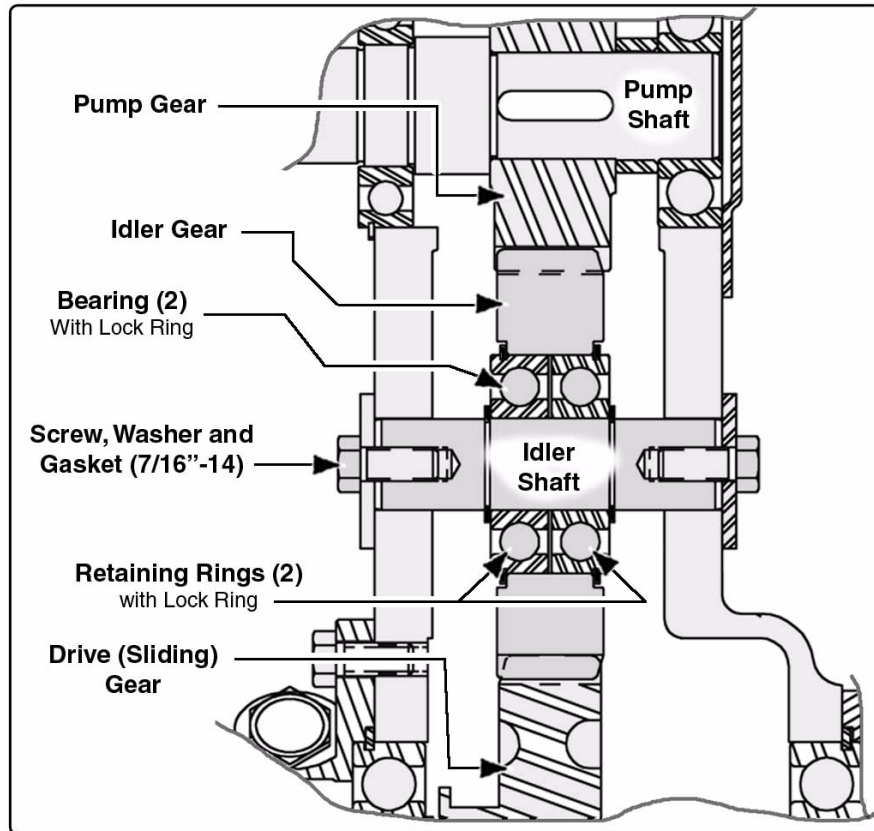

Figure 6c-8: Idler Shaft Assembly
2. Remove the 7/16”-14 screw, washer and gasket. (See Figure 6c-8: “Idler Shaft Assembly” on page 99.)
3. Remove the idler gear retaining rings (2).